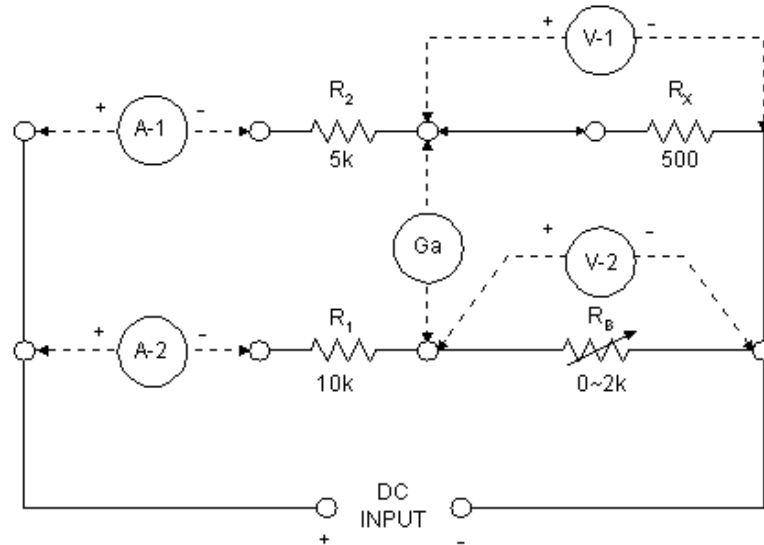

Figure 1-12 Balanced bridge
1. Make short 5n-5p in the circuit-5 of M-1, connect the current meter to both sides of 5i-5j/ 5d-5e, and then connect voltage meter to both sides of 5p-5q/ 5f-5g as Figure 1-12.